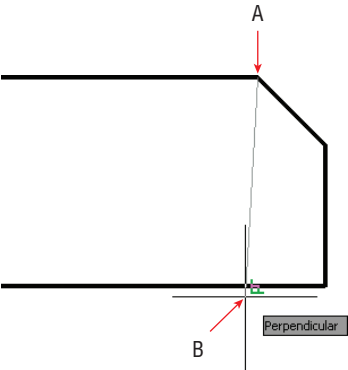

FIGURE 3.13 Drawing a line using running object snaps
7. Toggle off Polar Tracking and Dynamic Input modes on the status bar. Click the Line tool on the Draw panel. Move the cursor close to point A in Figure 3.13, and wait for the green endpoint marker to appear. When it does, click to snap the first point of your line precisely to this point.